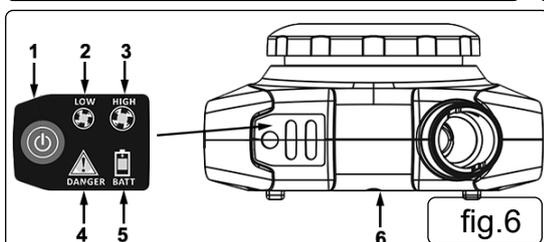

fig.6
4.9.2. Press the ON/OFF button (fig 6 - 1) for approx one second, until the blower starts (fig 6 - 6).
4.9.3. The low (fig 6 - 2) and high (fig 6 - 3) speed indicator lights will flash on, then off, the alarm sounds briefly and the blower will vibrate momentarily.
4.9.4. When the blower (fig 6 - 6) is operating press the ON/OFF button (fig 6 - 1) to alternate between low speed and high speed.
4.9.6. Press the ON/OFF button (fig 6 - 1) for approx one second, until the audible alarm and blower stops.
❑ **WARNING!** If the danger indicator light (fig 6 - 4) comes on, the audible alarm sounds and the blower (fig 6 - 6) vibrates, this indicates, that either the battery charge level is low, the air flow is reduced due to a dirty filter, the hose assembly is blocked or there is another possible problem.
4.10.1. The battery level indicator light (fig 6 - 5) indicates the remaining charge in the battery.